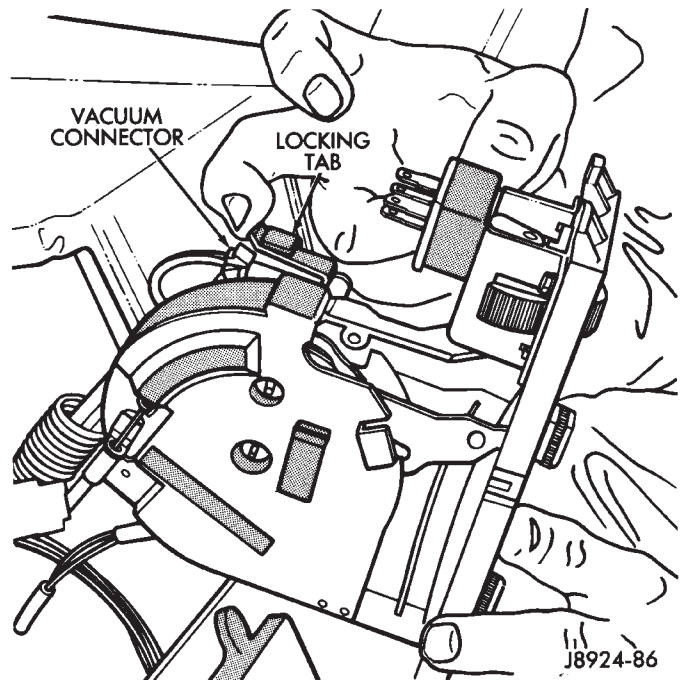

Fig. 6 Vacuum Hose Connector
(7) Disconnect the vacuum hoses by releasing the locking tabs (Fig. 6).